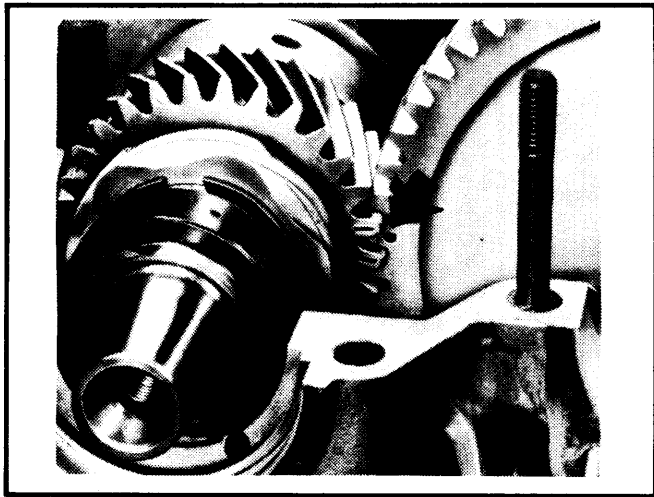

Fig. 12 Position of Camshaft Timing Gear
4) Install camshaft with "O" stamped in tooth on outside of camshaft gear between 2 teeth with punch marks on crankshaft gear. Assemble crankcase halves as previously outlined (See Fig. 12).
Install camshaft with "O" stamped in tooth on outside of camshaft gear between 2 teeth with punch marks on crankshaft gear (See Fig. 12).